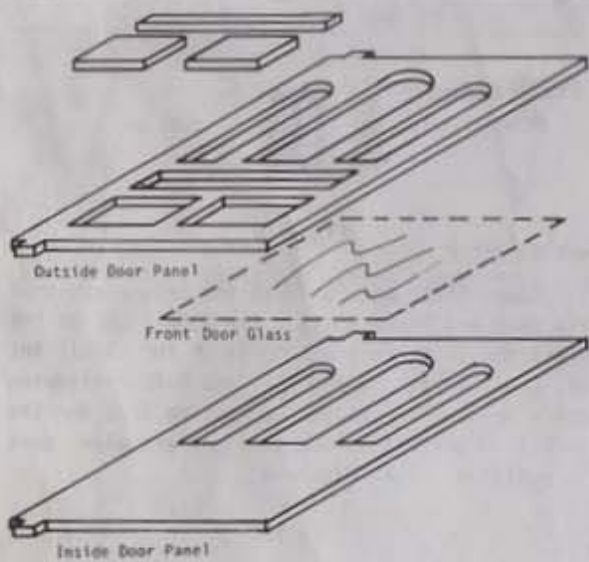

Figure 7
6. Locate Inside and Outside Door Panels, Door Pivot Plates, and Door Inserts (LF-2), and Front Door Window Glass. Lay the good side of the Inside Panel down. Glue glass to the Inside Panel like the other windows. Glue the Outside Panel to the Inside Panel with the good side of the Outside Panel up (Sandwiching the glass between the two panels). Check for proper orientation by making sure pivot pins of both panels line up. Glue inserts in the openings in the Outside Panel. (NOTE: The doorknobs and the pivot pins will be opposite from the label picture.) See Figure 7.